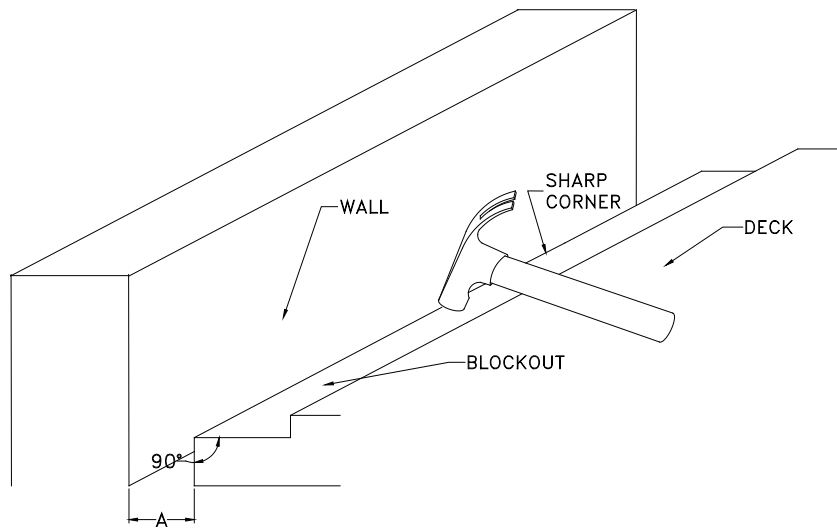

Figure 2
- B. Concrete within the blockout area and adjacent to the expansion joint system must be sound. Confirm by tapping these areas with a hammer (see Figure 2). A hollow sound, or cracking, crumbling or loosening of the concrete indicates it is unsound and must be removed and repaired with a structural repair mortar. Acceptable repair mortars include; Thoroc 1060, Emaco T-415 and Sika 123. Contact Balco, Inc. for recommendations on other compatible repair mortars.